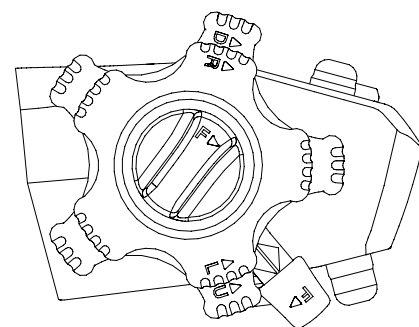

Fig.4-2-3
- b) Set the RL Knob to the neutral and lock with the RL Lock Knob as shown in Fig.4-2-3.